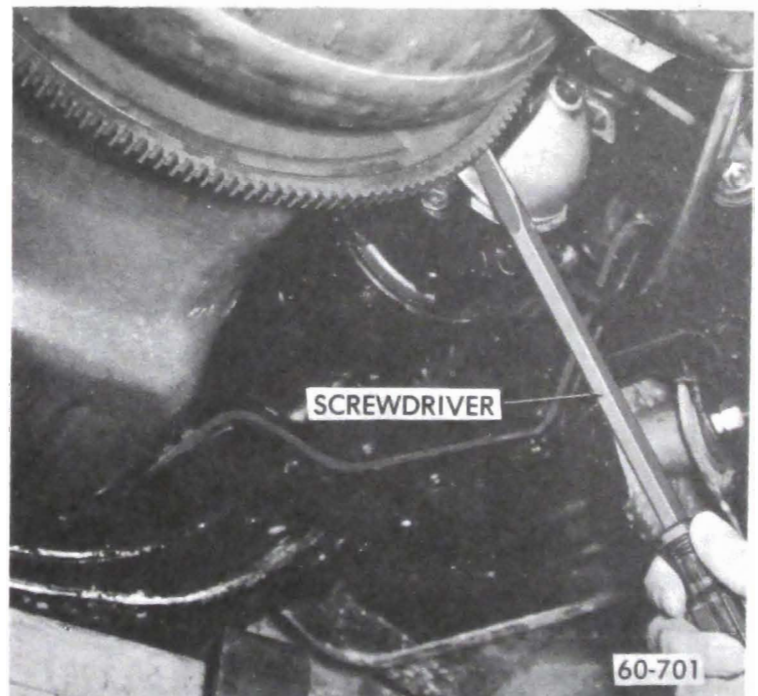

Figure 60-52 - Locking Flywheel to Torque Harmonic Balancer Bolt.(350 cu.in. Shown)
5. Install harmonic balancer, bolt and washer. By using a screwdriver or other suitable tool, lock flywheel and torque bolt to (140-160 lb. ft. on 350 cu.in.) and (200-220 lb. ft. on 455 cu.in.) See Figure 60-52.